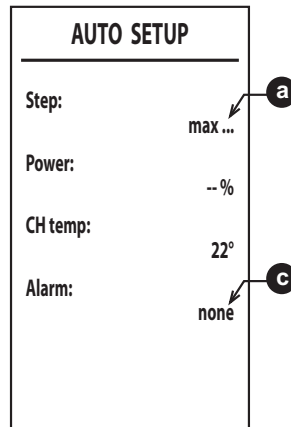

fig. 38
6. After ignition, the burner goes to the various powers (max, med, min) indicated by **a** (fig. 38).
- shows **max\_err** at **a** and an error code at **c** (fig. 38).